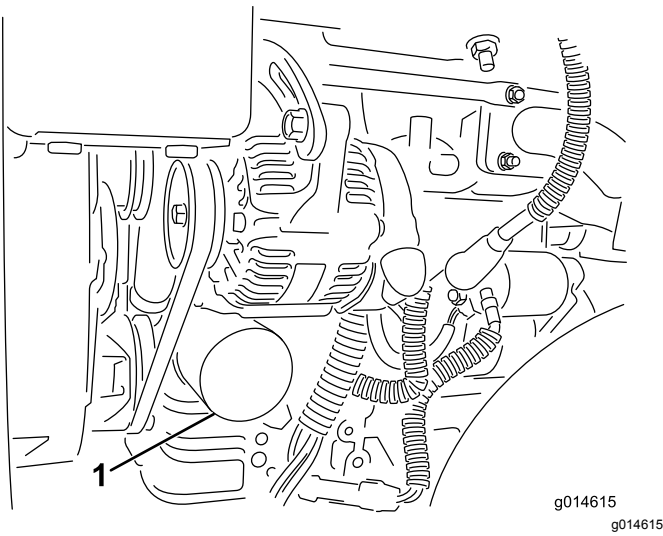

Figure 41
2. Remove the oil filter (Figure 41). Apply a light coat of clean oil to the new filter gasket.